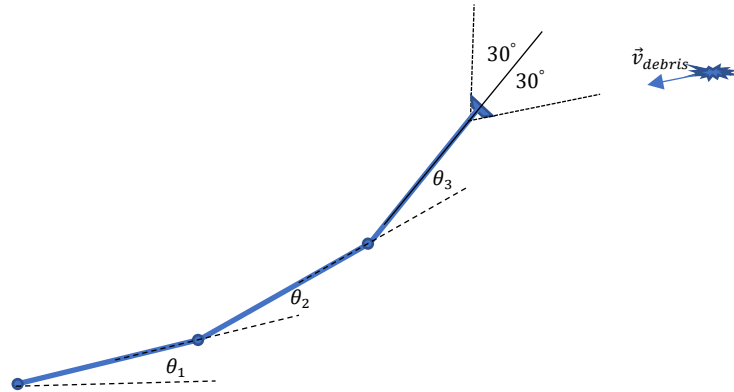

Figure 2: Showing a description of requirement 2.b.
- b. End with the velocity vector of the debris at an angle of at most  $30^\circ$  relative to the axis of the third link (see Figure 2).